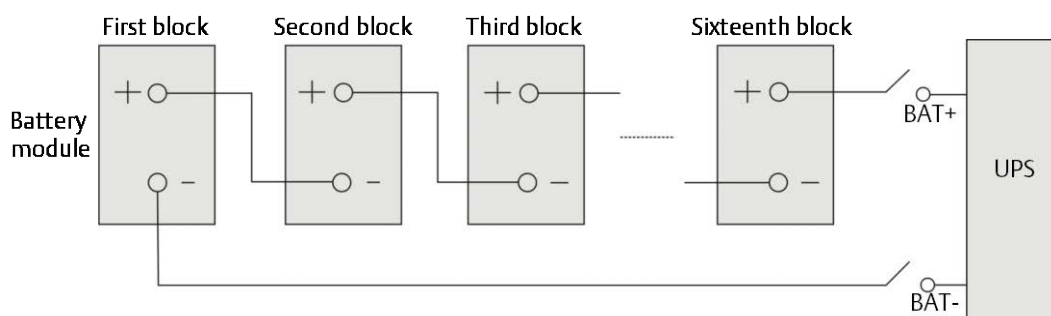
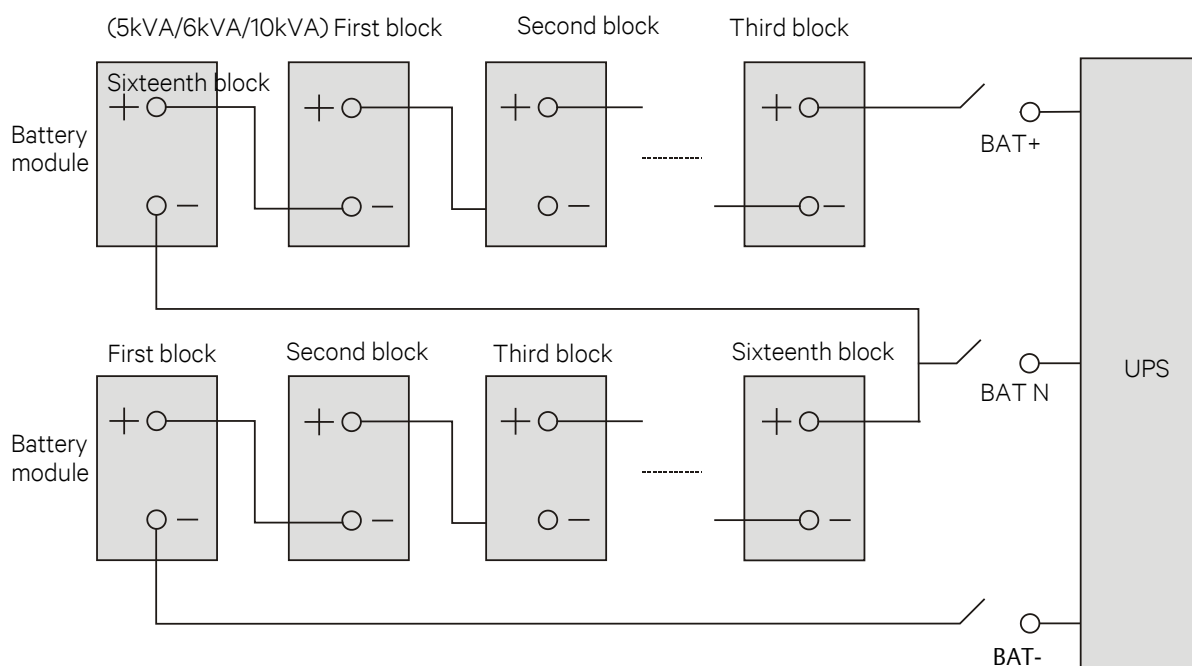

Figure 2-28 Battery string connection principle diagram
Figure 2-29 Battery string connection principle diagram (16kVA/20kVA)
1. 5kVA/6kVA/10kVA: The default battery number of the UPS is 16-block. The external battery string connection principle diagram is shown in Figure 2-28.
2. 16kVA/20kVA: The default battery number of the UPS is 32-block (16-block for positive and 16-block for negative). The external battery string connection principle diagram is shown in Figure 2-29.
1. As shown in Figure 2-28 and Figure 2-29, one DC battery MCB must be added between the battery strings and the UPS.